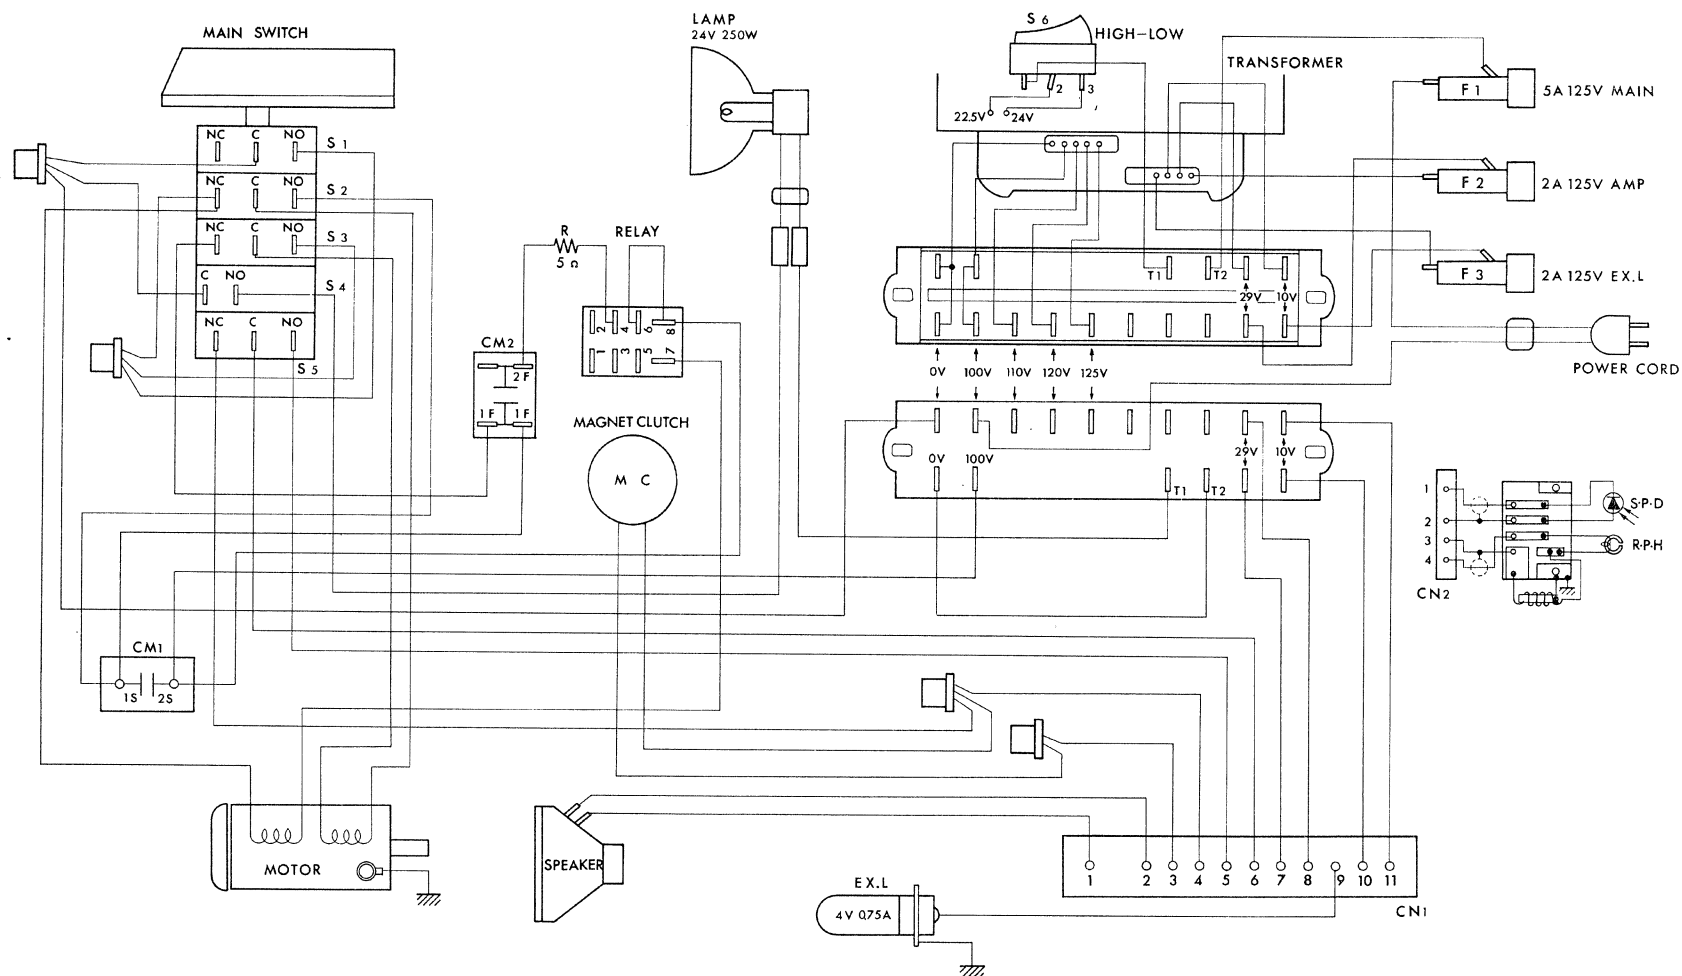

Fig. 30 Connecting diagram for machine for 16-CL
| Projector does not run.           | Power Cord, Main Fuse (F1)      | If Power Cord or Main Fuse is defective, replace it.                                                           | Fig. 3031 |
| Projector runs slowly.            | Transformer (1) Assy (Fig.15-3) | If the terminal voltage of Fig.15-3 which is applied to motor is less than the rated value (100V), replace it. | Fig. 3031 |
| Projector does not run inversely. | Motor Switch (S2, S3)           | If motor switch is defective, replace it.                                                                      | Fig. 3031 |
| Neither Optical nor Magnetic Film can be reproduced. | Power Cord, Fuse (F1)                                       | If power cord or fuse is defective, replace it.                                                                                                    | Fig.3031 |